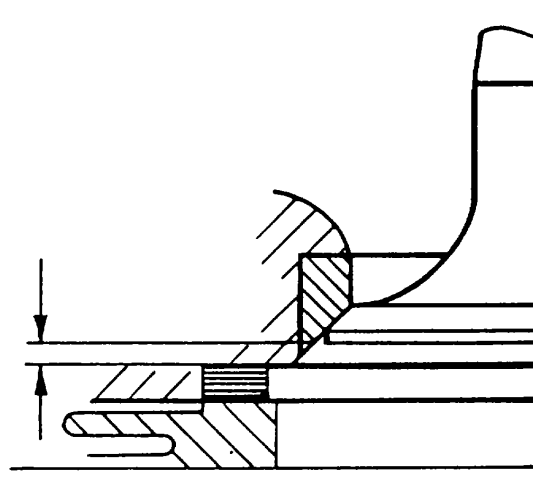

Figure A-77. Clearance Valve Head to Cylinder Face
f. Valve Seats: All valve seats are cut at 45° angle. They should be free of noticeable wear or pitting. If damaged, they may be either resurfaced or replaced. Use the valve cutter provided in the special tools set to resurface the valves. Do not remove material unnecessarily. If the seats are cut too deep, hard starting and poor engine efficiency will result. If the distance between the valve head and cylinder head face exceeds the limits shown below, the valve seat must be replaced. Figure A-77.